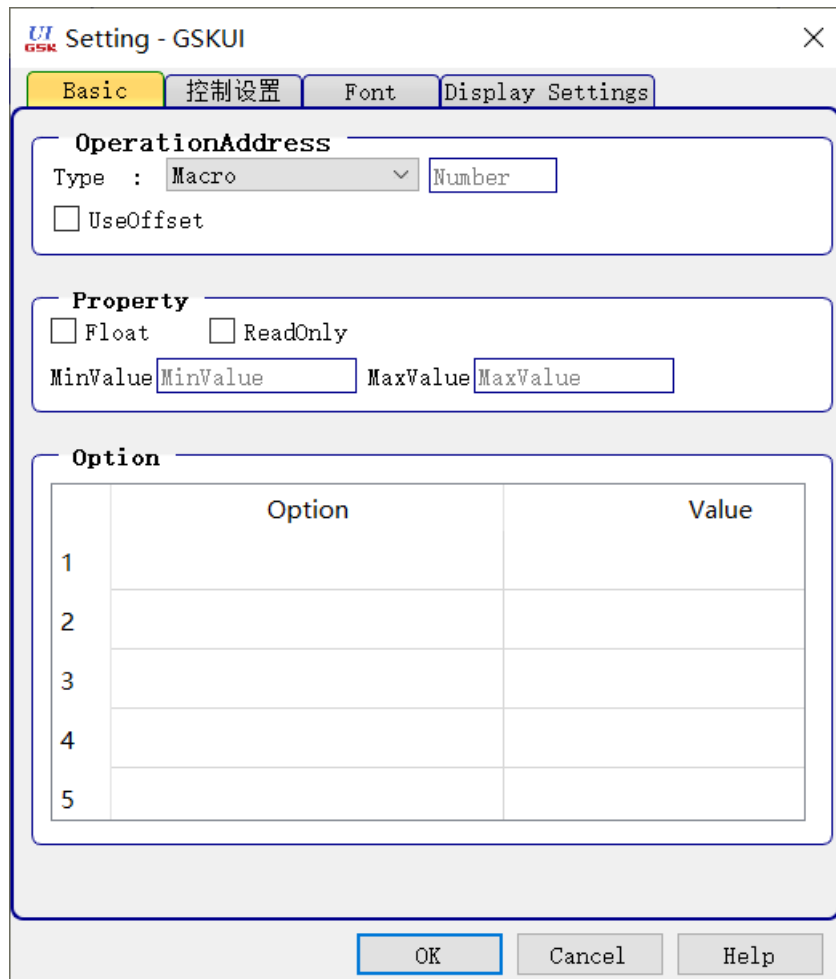

Fig. 1-85
- (8) After selecting a control by dragging the mouse to draw a selection box around it, you can reposition the control using the left mouse button or the arrow keys.
- (9) Double-click a control in the editing area to set its properties, such as operation address, displayed text, etc., as shown in Figure 1-85.